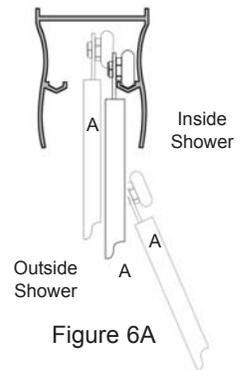

Figure 6A
- Hold the Inside Framed Door Panel (#6) so that the rollers are facing away from you. Standing outside and facing the shower enclosure, lift the Inside Framed Door Panel (#6) up and over the Bottom Track/Curb (#2) and then lift the Top Rail (#10) up into the Header (#1) (See Figure 6A).